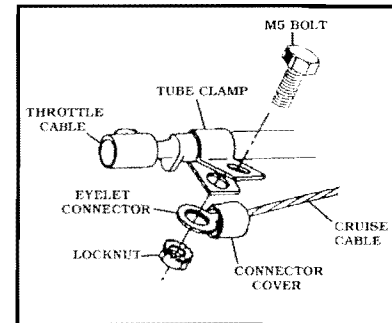

Figure 14
1. Select a TUBE CLAMP that fits the throttle cable. Make sure the tabs of the TUBE CLAMP point away from the carburetor or air throttle. This will prevent the throttle from hanging. Figure 14
3. Put the M5 BOLT through the holes in the TUBE CLAMP. Slide the EYELET CONNECTOR over the bolt. Thread the LOCKNUT onto the bolt and tighten. Figure 14